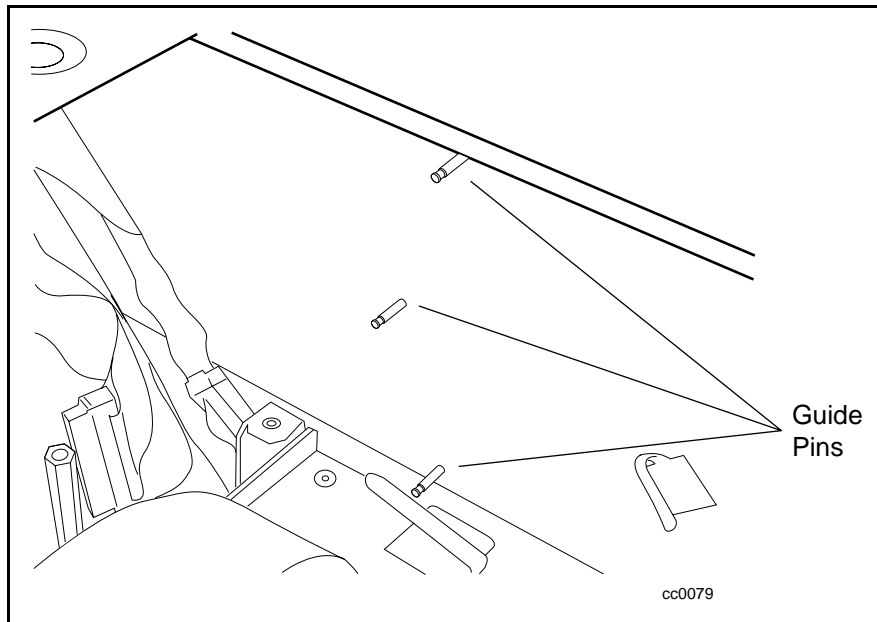

Figure 5-8. Replacing the controller board
6. Place the new board on the three guide pins (see Figure 5-8).